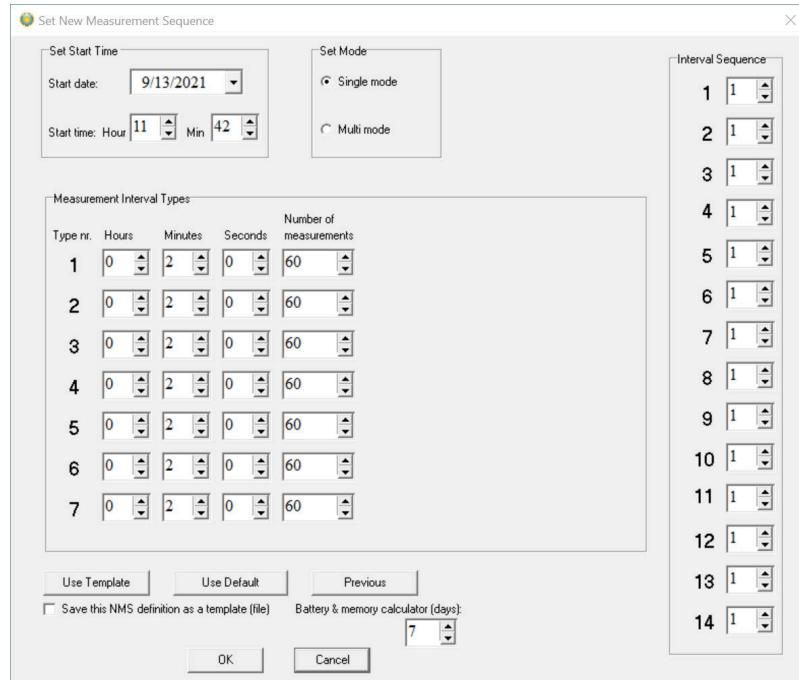

Figure 6.7: Setting new Measurement Sequence (with multiple intervals)
**Interval Sequence 1-14** The interval sequence must be filled out. As shown in figure 6.7, the user selects to use intervals 1-6 for the recordings. Another example: Suppose two of the first sampling intervals are used. In that case, the sequence should be 1, 2, 1, 2, etc., meaning that the recordings shift between the first and the second intervals, recording the defined number of measurement for the first interval, and then shifting to the second interval taking the number of measurements defined. The shifting between the intervals repeats until memory is full or until a connection is made through a PC computer.